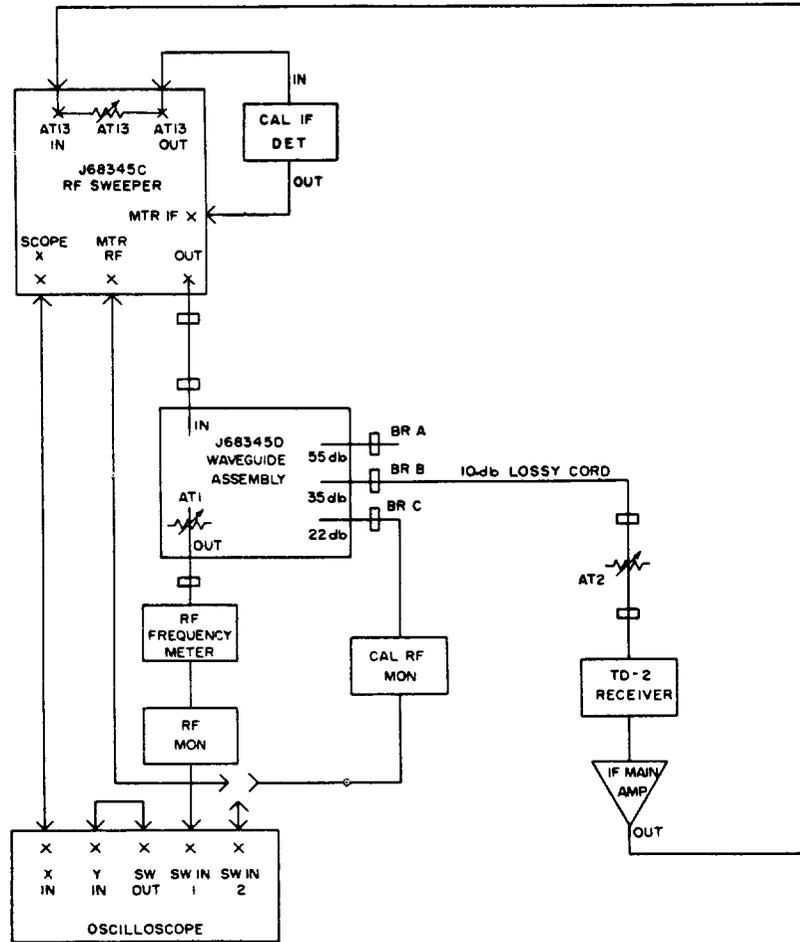

Fig. 11 - Calibration of TD-2 Receiver — Using J68345A Test Set
- (1) Set attenuators as follows: (Reference, Fig. 11)
- (2) Connect the test circuit as shown in Fig. 11. Adjust the RF sweeper to the normal frequency of the TD-2 receiver. Turn the sweep off and verify that the sweep is still within 3 mc of the receiver normal frequency. Readjust if necessary.